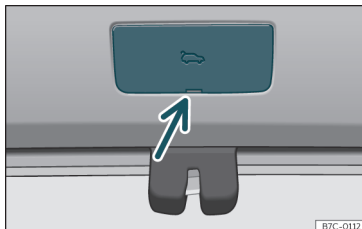

Fig. 7 Luggage compartment: access to manual release.
- Remove the cover using the key blade as a lever » **Fig. 7**.